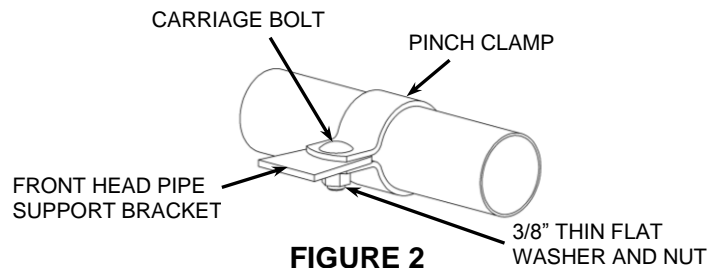

FIGURE 2
8. Slide the supplied pinch clamp over the front headpipe making sure the square hole on the clamp is facing up and towards the inside. Position the clamp over the support bracket so that the pinch clamp captures both sides of the bracket. See **FIGURE 2**. Insert the supplied 3/8" carriage bolt through the top of the pinch clamp and support bracket. Install the 3/8" thin flat washer and nut onto the bottom of the carriage bolt but **DO NOT TIGHTEN** at this time.
16. Then fully tighten the flange nuts on the exhaust port studs, followed by the 3/8" carriage bolt and nut on the front headpipe support clamp. See **FIGURE 2**.